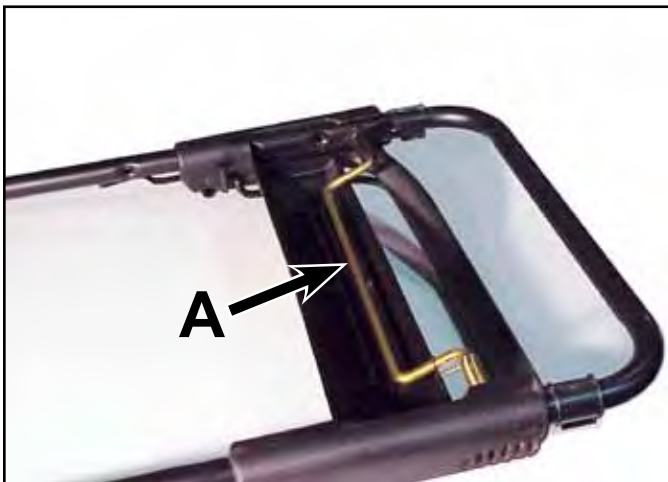

Fig 273
3. As the handle begins to slide downward, pull the traction control bar farther out of the handle (Fig. 273).